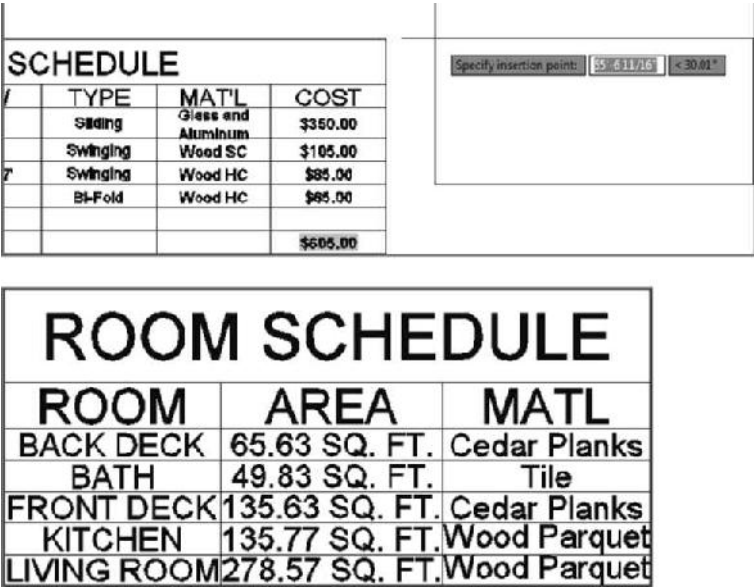

FIGURE 9.79: Placing the ROOM SCHEDULE table (top), and the results of the data extraction (bottom)
20. Use the cursor to choose a location for your ROOM SCHEDULE near the DOOR SCHEDULE you created earlier (see the top of Figure 9.79).
Your ROOM SCHEDULE inserts to display the block attribute values from the A-ROOM-IDEN block in table form (see the bottom of Figure 9.79).